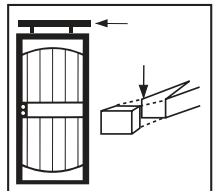

FIGURE 6
6. Insert end caps in ends of header (Fig. 6).